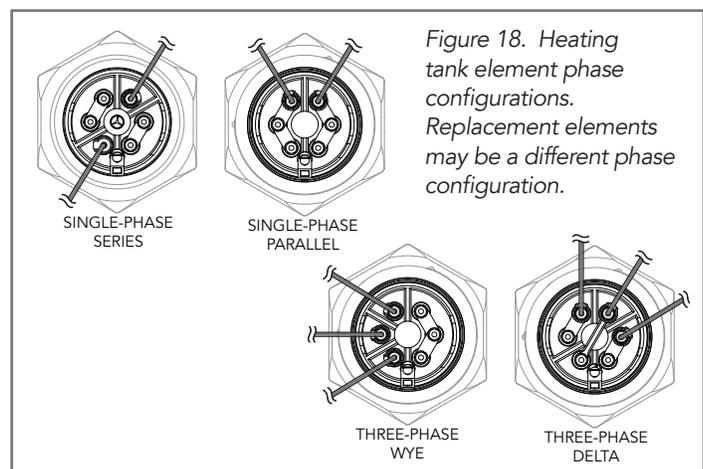

Figure 18. Heating tank element phase configurations. Replacement elements may be a different phase configuration.
3. Drain the fluid from the heating tank (F).
4. Remove the cap (A) from the heating element service entrance enclosure.
5. The wire connections inside the enclosure correspond to one of the phase configurations shown on the following page. Note your unit's phase configuration. See Figure 18.